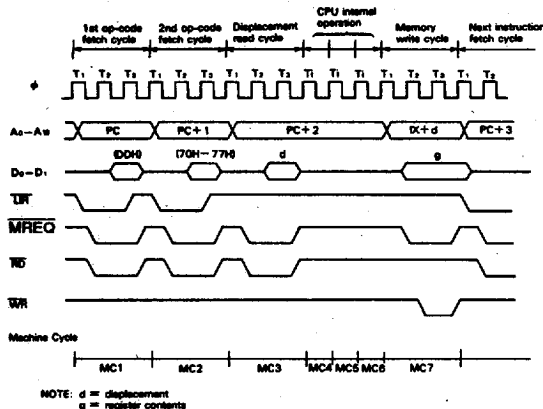

Figure 13. Instruction Timing
The example in Fig. 13 illustrates the bus timing for the data transfer instruction LD (IX+d),g. This instruction moves the contents of a CPU register (g) to the memory location with address computed by adding a signed 8-bit displacement (d) to the contents of an index register (IX).